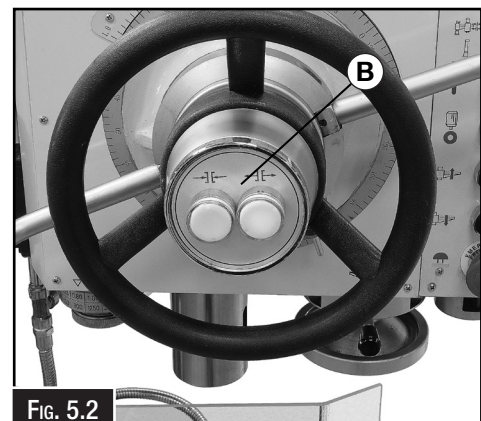

Fig. 5.2
After the power is connected, release the clamps by pressing the release button on the headstock. (B in Fig. 5.2) then move and swing the column to make sure the clamps have been released.
- B. Clamp Buttons:** Activates the clamps for both the swivel of the column and movement along the radial arm. (Fig 5.2).